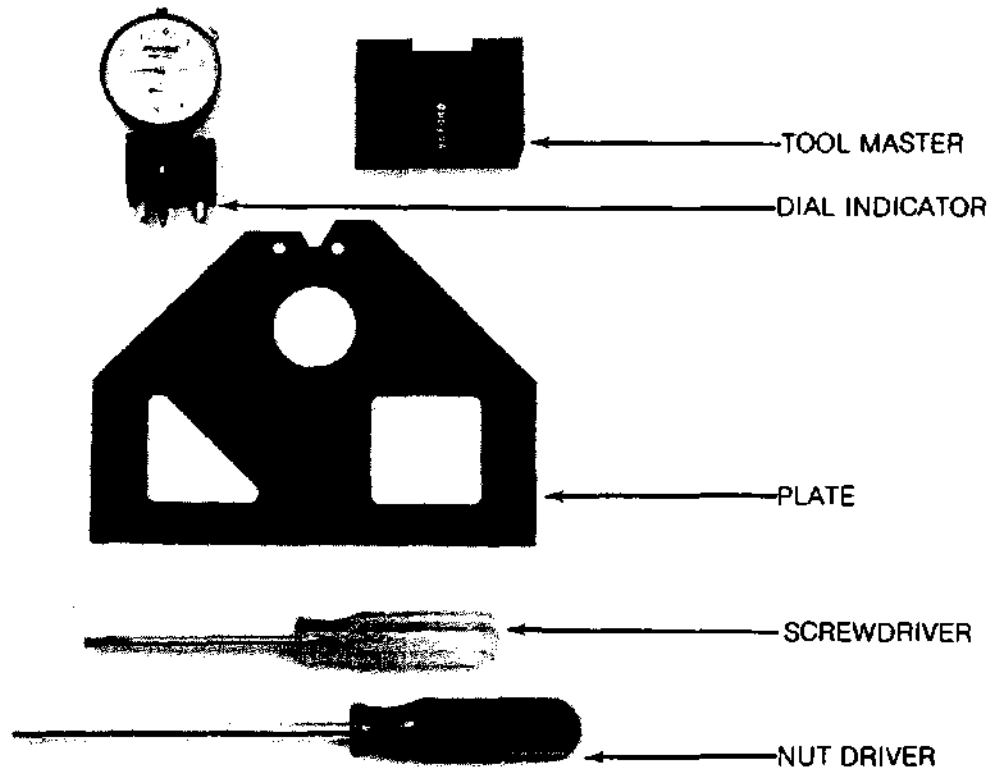

FIGURE 39. HEAD PENETRATION TOOLS
- a. The tools necessary to perform this alignment procedure will consist of penetration gauge tool set, screwdriver and 1/4" nut driver (see Figure 39).